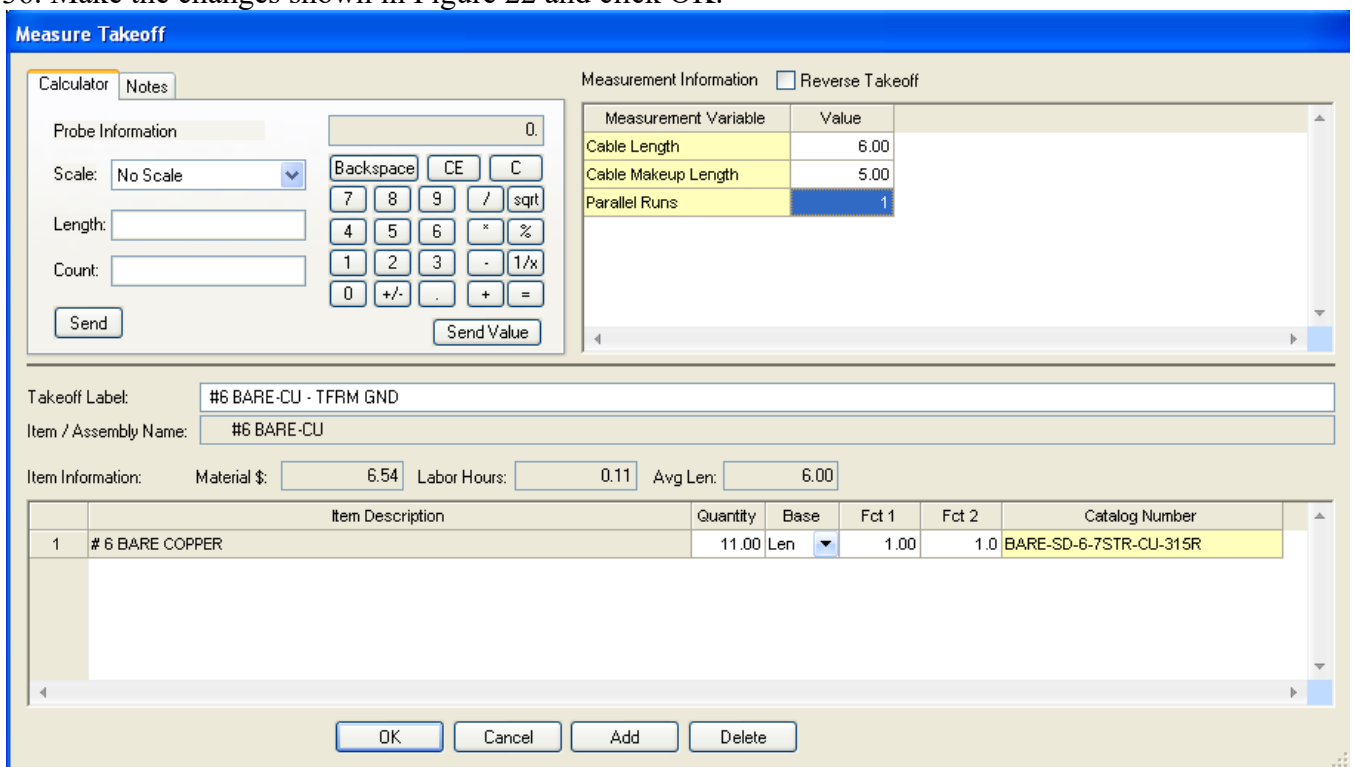

Figure 22
36. Make the changes shown in Figure 22 and click OK.